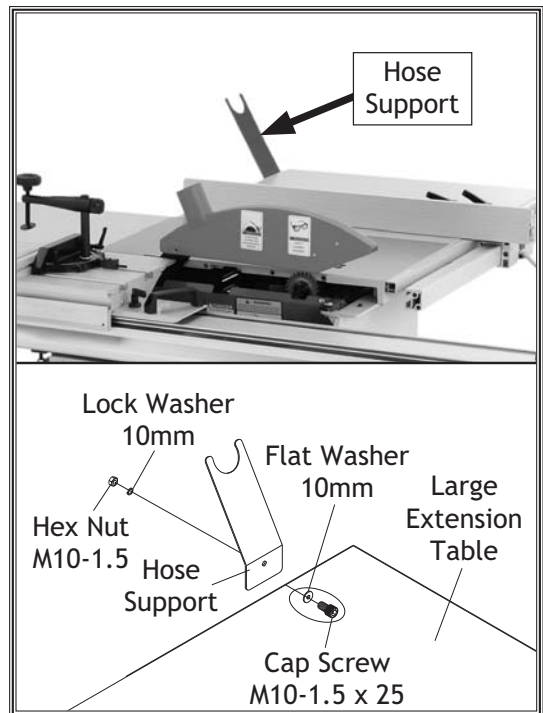

Figure 41. Hose support installed.
39. Install the hose support, as shown in Figure 41, with hardware shown below.